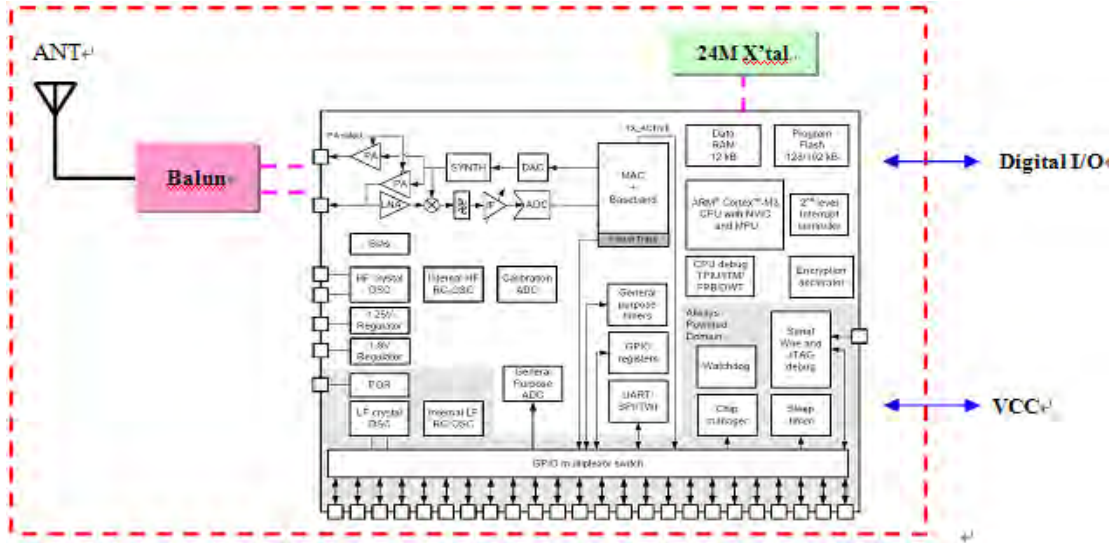

Figure 3-1: DFZM-E822x Block Diagram
- The low power module option has a capability of +8dBm output power at the antenna (see Figure 3-1).